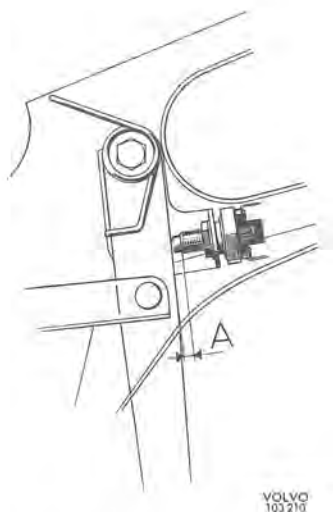
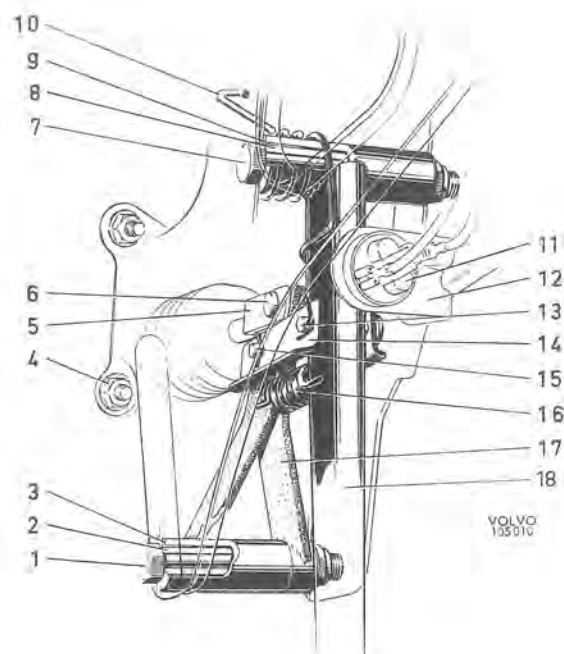

Fig. 5-68. Adjusting brake light switch
Fig. 5-69. Brake pedal suspension components
Check the distance from the brass hub on the brake light switch to the brake pedal, see Fig. 5-68, when the brake pedal is released. The distance should be 4 ± 2 mm (0.16—0.08"). To adjust, slacken the screw for the bracket (12, Fig. 5-69). Remember to tighten the screw after adjustment.
2. Remove the bracket (12, Fig. 5-69) for the brake light switch (11). Remove the split pin and bolt (13). Unhook the return spring (10) and the spring (16). Unscrew the nut for the bolt (7) and pull out the bolt.
3. Lift out the pedal (18).
4. Fit the new pedal bushes (9) and lubricate the bearing sleeves (8) with a light layer of ball-
2. Remove the bracket (12, Fig. 5-69) for the brake light switch. Remove the split pins and bolts (6-13). Unhook the return spring (10) and the spring (16). Unscrew the nuts for the screws (1-7) and remove the screws.
3. Lift out the pedal (17) and the lever (16).
3. Remove the bracket (12, Fig. 5-69) for the brake light switch.
4. Fit the bracket (12, Fig. 5-69), and adjust the brake light switch (11), see under "Adjusting the brake light switch" on page 5 : 27.
2. Disconnect the link arm (16, Fig. 5-69) from the brake pedal. Remove the bracket with clutch pedal stop from the cowl.